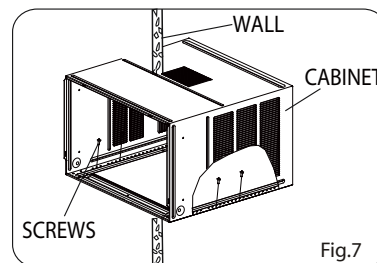

Fig.7
3. Install the cabinet into the wall and secure. Ensure the foam seals are not damaged. Flash, seal or fill gaps around the inside and outside to provide satisfactory appearance and protection against the weather, insects and rodents.(see Fig.7)